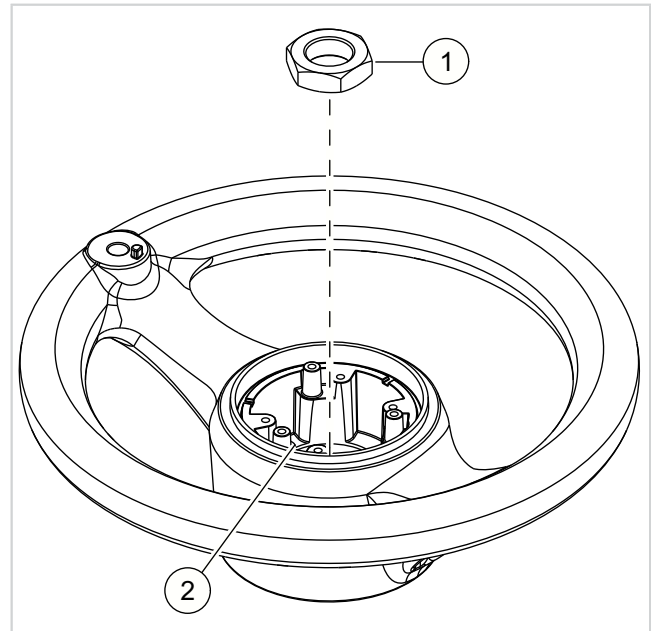

Fig. 106 (29960)
- See Figure 106. Disconnect the wires (2) from the horn contact rings.
- Remove the jam nut (1).